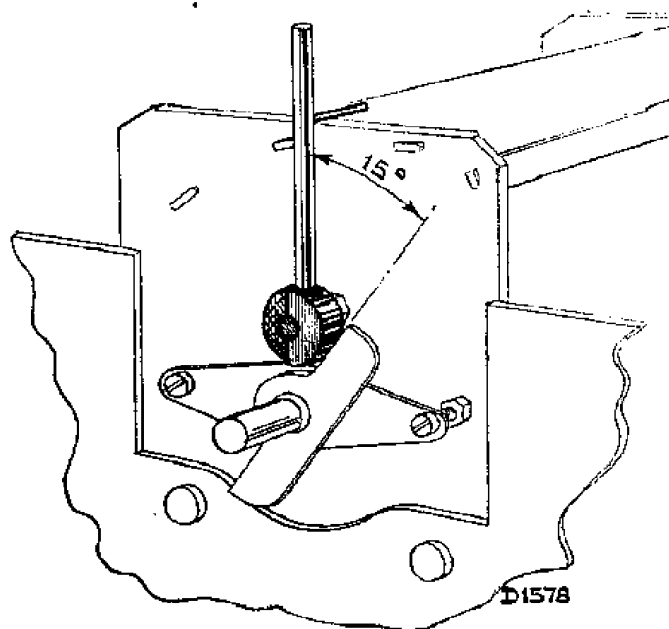

Fig. 2.
It is essential that the condenser is, to begin with, in a predetermined fixed position, namely 15° from the minimum. It can be adjusted by the aid of the template, Fig. 2.
3. A 15° template (Code No. 09.991.470). Fig. 2.
2. Fit a 15° template, Fig. 2.